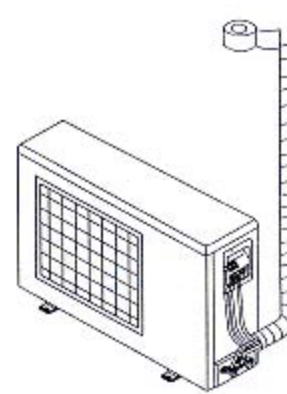

Fig.3.1.12
- ◆ Use thermal insulation tape to wrap the pipes from the bottom of the outdoor unit until the upper end of the pipe where the pipe enters the wall. When wrapping thermal insulation tape, the later circle of tape must cover half of the former circle of tape (Fig.3.1.12).